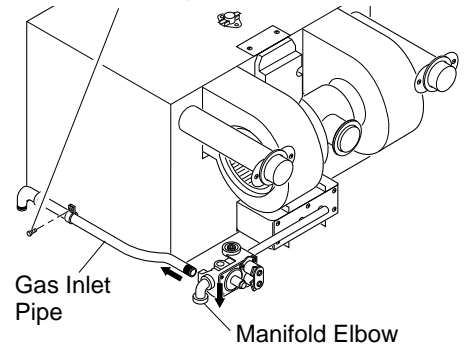

Figure 12 - Disconnecting Gas Inlet Pipe (40,000 BTU/Hr Model Shown)
6. Disconnect gas inlet pipe from 3/8" manifold elbow. Turn gas inlet pipe counter-clockwise to disconnect (see Figure 12).
7. Rotate the 3/8" manifold elbow 90° so the opening is pointing downward (see Figure 12).